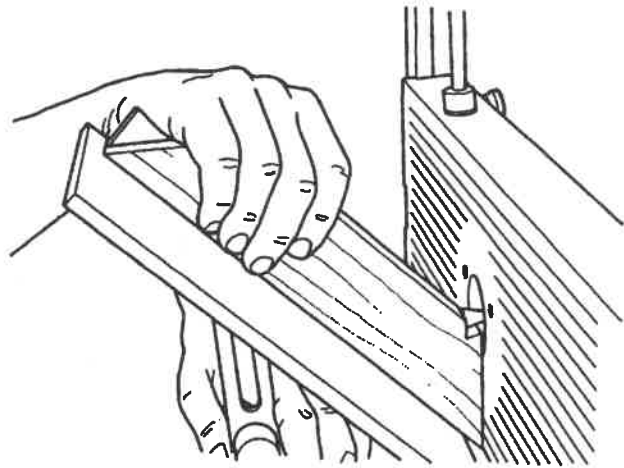

Fig. D-7
3. Turn on the Dust Collector and router, then make the first cut on workpiece "A". Turn off the Dust Collector and router. See Fig. D-7.